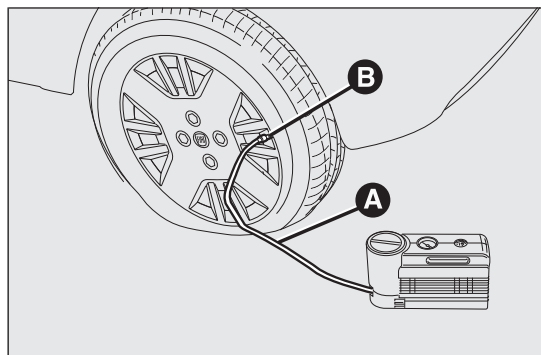

fig. 129
- ☐ Apply the handbrake. Unscrew the tyre valve cap, take out the flexible filler pipe A fig. 129 and tighten the ring nut B on the tyre valve;